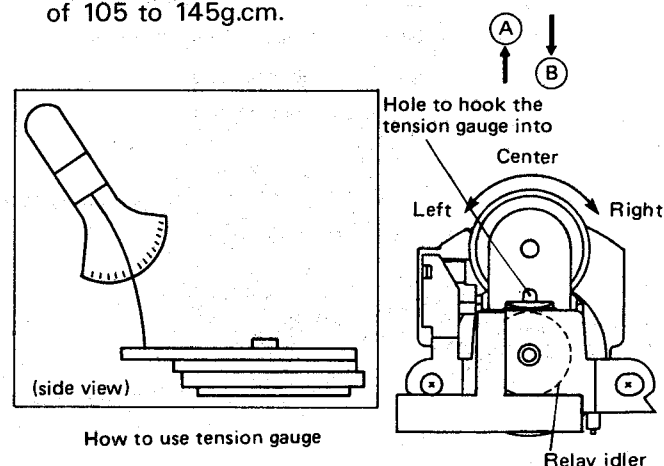

Figure 14.
2. Move the reel idler to its center position as shown in Fig. 14.
3. Using a tension gauge, push the reel idler in the direction of arrow \Rightarrow (A) in Fig. 14, so that the reel idler moves away from the link idler.
4. Release the force gradually in the direction of arrow \Rightarrow (B) in Fig. 14, so that the reel idler touches the reel motor pulley again. Check that the reading on the tension gauge is within the specified range of 105 to 145g.cm.